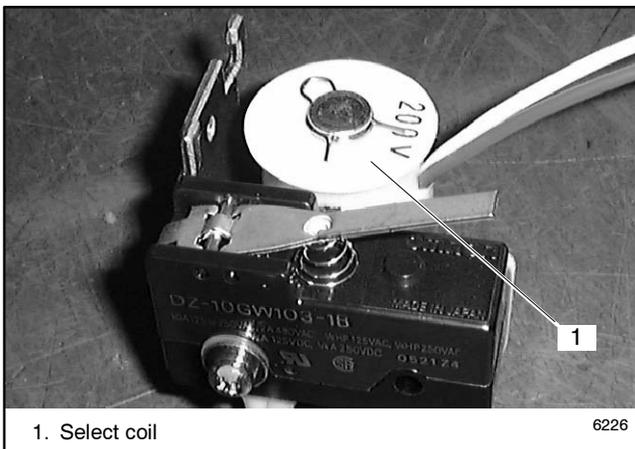

Figure 6-20 Select Coil
- Replace the select coil. See Figure 6-20.